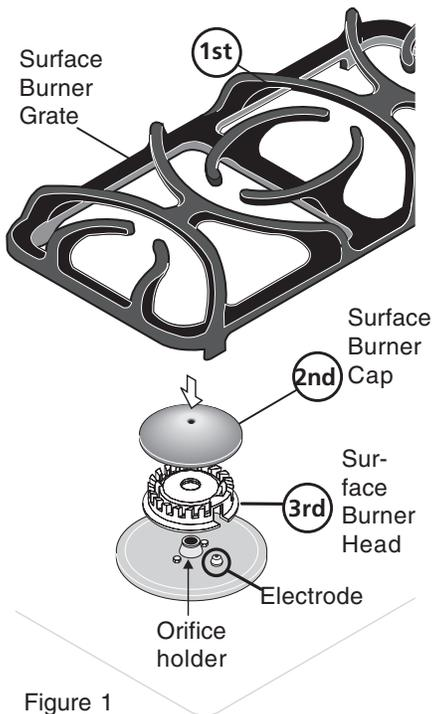

Figure 1
**To Remove and Replace the Surface Burner Grate, Surface Burner Cap and Surface Burner Head** - Remove in the following order; (1st) Surface Burner Grate, (2nd) Surface Burner Cap, (3rd) Surface Burner Head (See Figure 1).